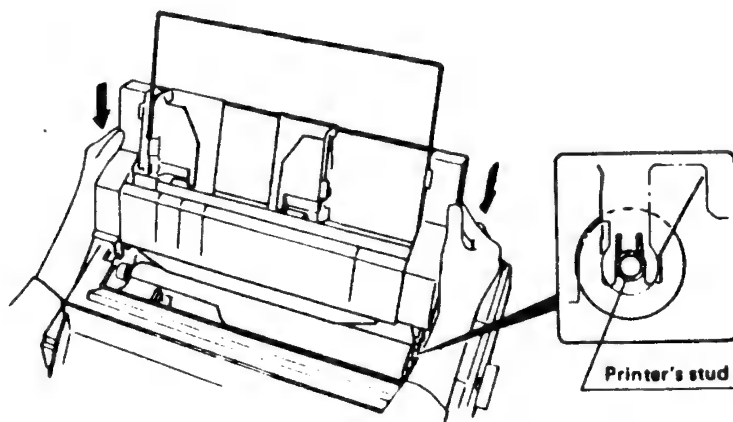

Figure C-5 Installation of Cut Sheet Paper Feeder
9. Install the Cut Sheet Paper Feeder on the printer, so the Sheet Feeder's clamps fit over studs on the printer as shown in Figure C-5.